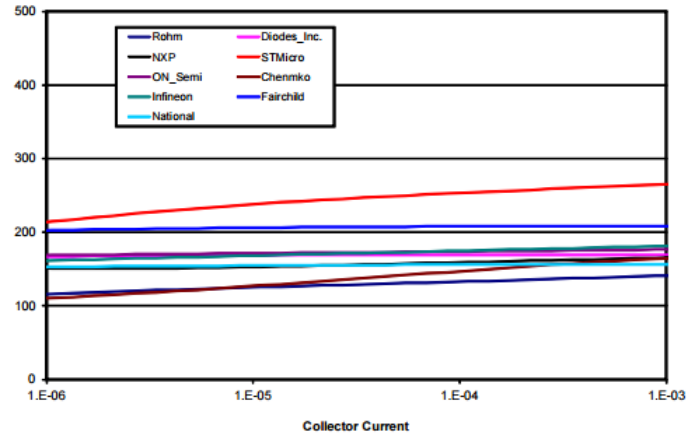

Figure 3.1 Typical Beta Values for 2N3904 Transistors at 23°C (the Microchip lab data)
Transistors parameters that affect temperature measurements accuracy (remote accuracy) are the forward current gain β (I) and series resistance R_s . Based on the Microchip lab data for 2N3904 those parameters have a small effect on temperature measurement accuracy over the entire sensor's sourced current range (4.5-920uA). [1] Figure 3.1 shows the typical beta values of transistors tested by Microchip and can be used as a typical representation for the limited quantity of 2N3904 transistors. [1]